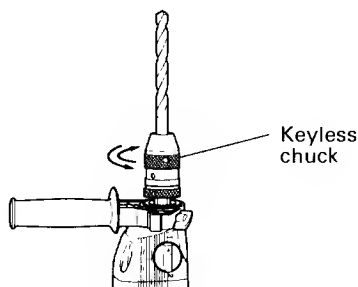

Fig. 3
**For keyless chuck** (Fig. 3, 4)